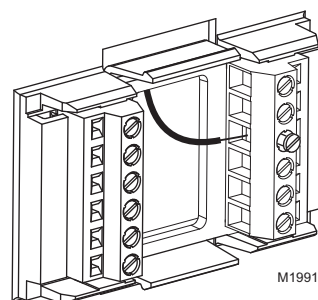

Fig. 8. Inserting wires in terminal block.
2. Loosen the screws for the appropriate system type selected; see Table 1. See Table 2 for terminal designation descriptions. Insert wires in the terminal block under the loosened screw. See Fig. 8.